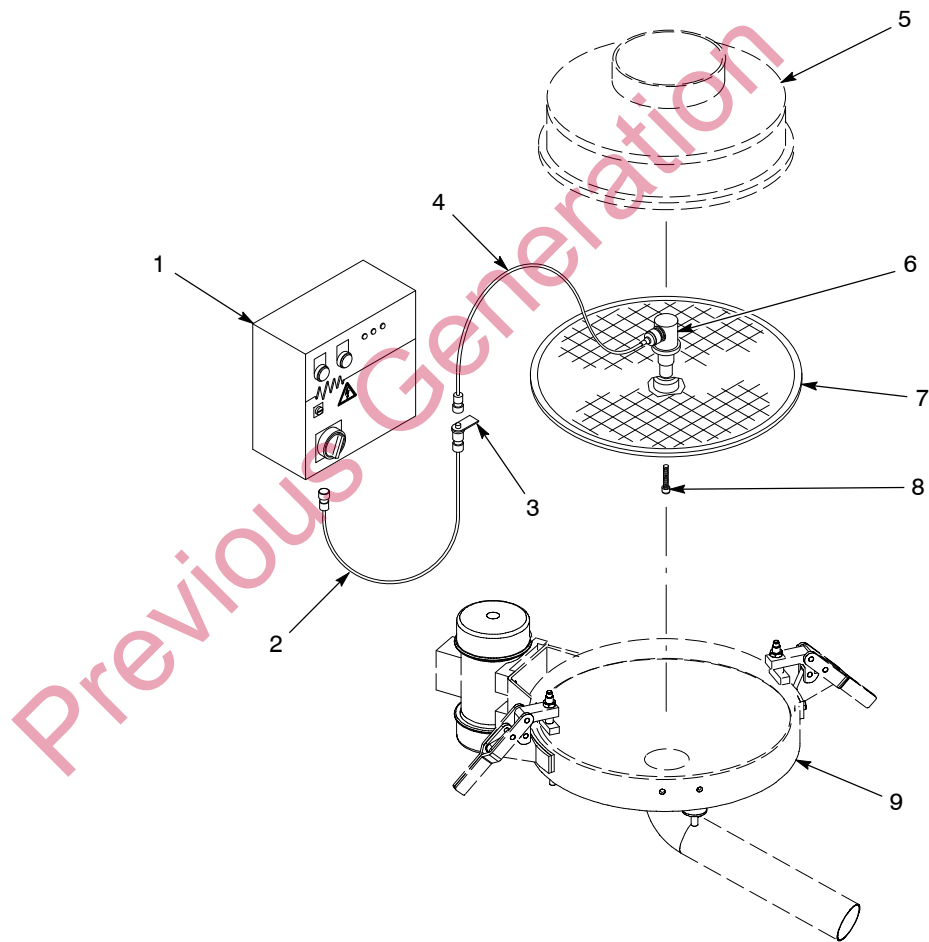

Figure 23 Vibrasonic System Components
See Figure 23.
1. See Figure 23. Clean the center hub of the screen (7) and the bottom of the transducer (6) with acetone.
2. Set the transducer onto the center hub of the sieve screen. Install the cap screw (8) into the transducer and hand-tighten it.
5. Set the sieve screen into the sieve (9). Route the transducer cable (4) through the sieve deck (5) and clamp the sieve deck onto the sieve.